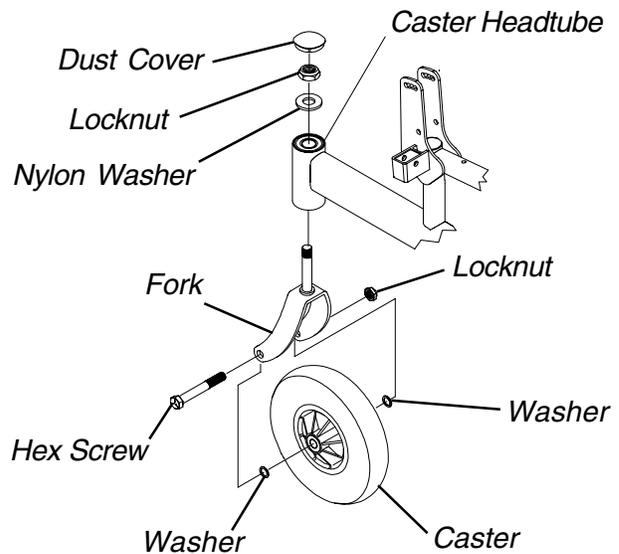

FIGURE 5 - REPLACING FORKS
**REPLACING FORKS (FIGURE 5)**